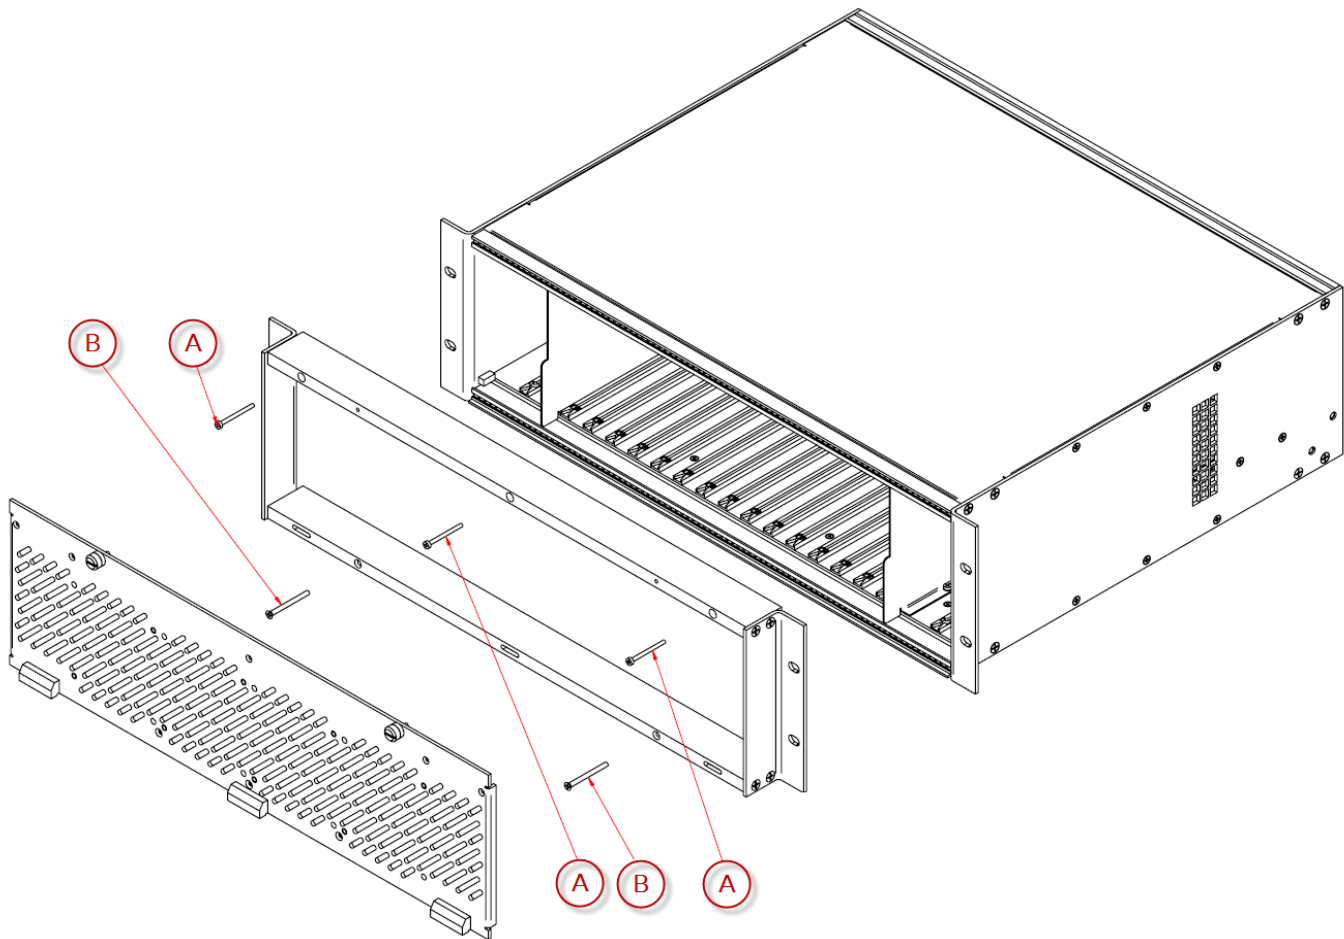

Figure 1: 7800FR-QT Retrofit Kit Installation
9. Attach the new front panel assembly to the frame by lining up the front panel mounting holes to the rack screw holes. Secure the front panel assembly to the original frame by installing 3 of the 2.5mm x 30mm screws in the top extrusion extension bar and installing 2 of the M3 x 30mm screws in the in bottom extrusion extension bar (screws are labeled A and B respectively in Figure 1). On frames that have lots of holes in the bottom extrusion you will have to use 2 of the 2.5mm x 30mm on the bottom (same screws as the top)